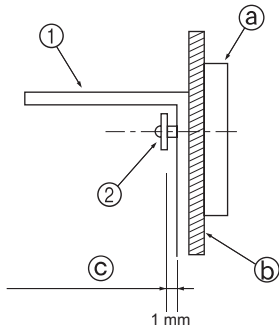

Fig. 3-4
- First, mount the bracket on the wall and then tighten the screw so that the bracket can slide up and down. (Fig. 3-4)
- ① Tip-over prevention bracket
- ② Tapping screw
- ④ Wall surface material